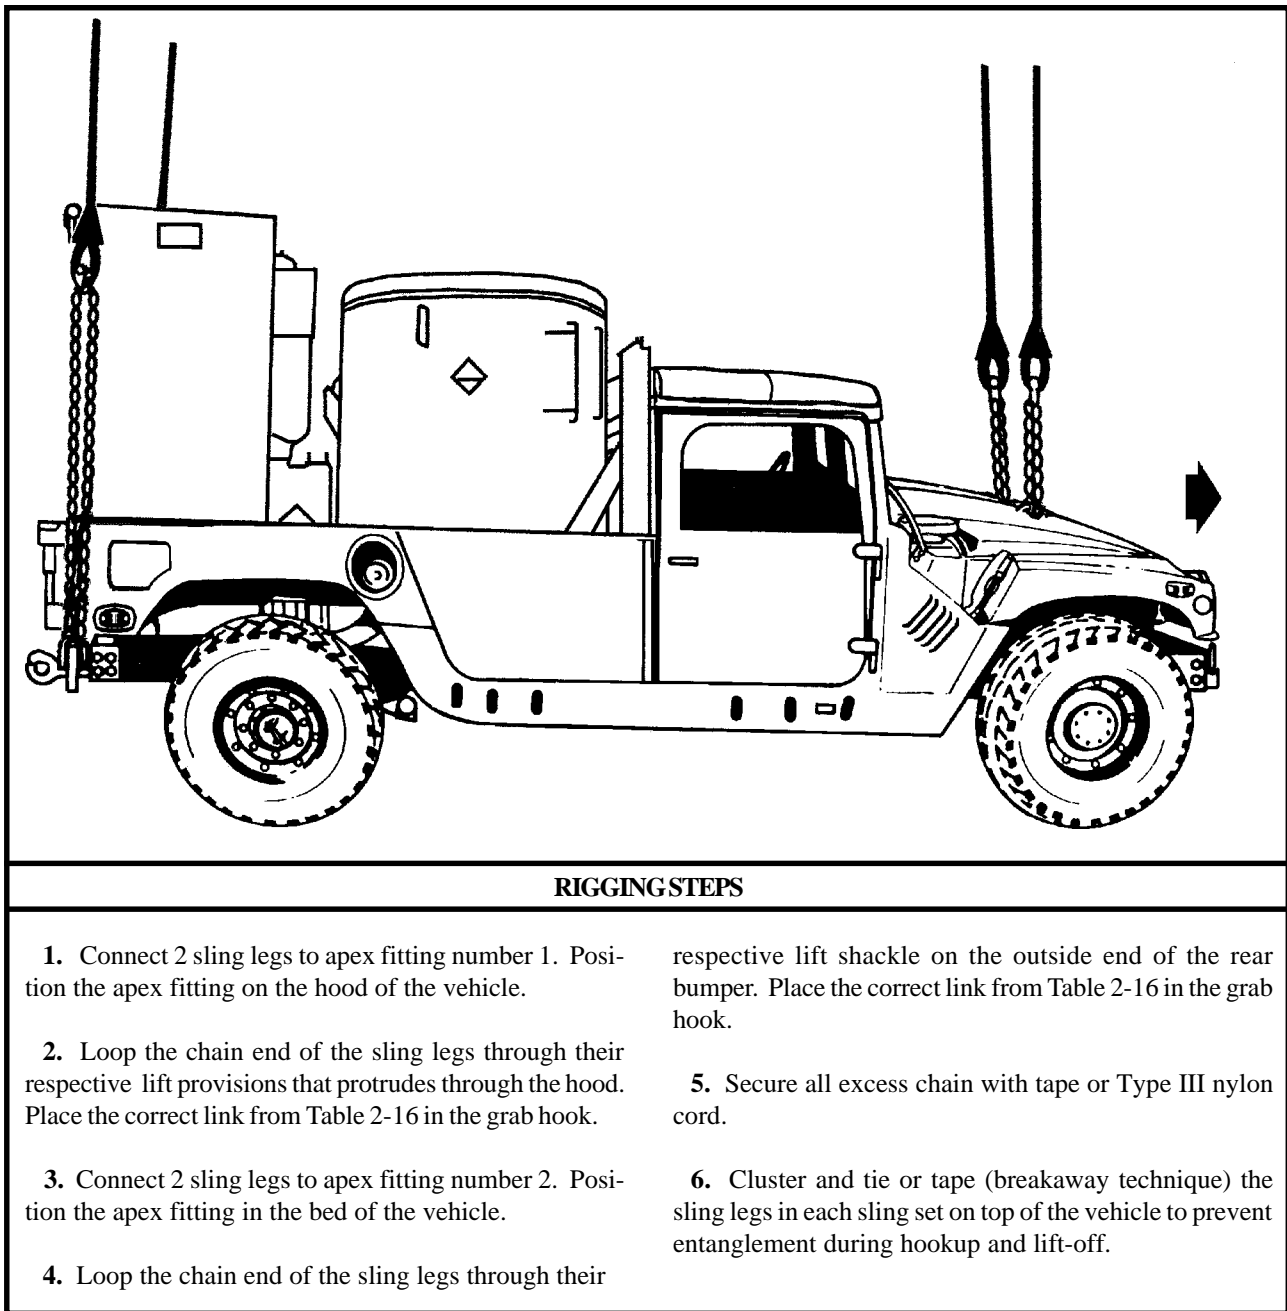

Figure 2-15. M1097 (H-HMMWV) With AN/TPQ-42, Meteorological Hydrogen Generator (MHG)
(2) **Rigging.** Rig the load according to the steps in Figure 2-15.
(4) **Derigging.** Derigging is the reverse of the preparation and rigging procedures in steps d (1) and d (2).